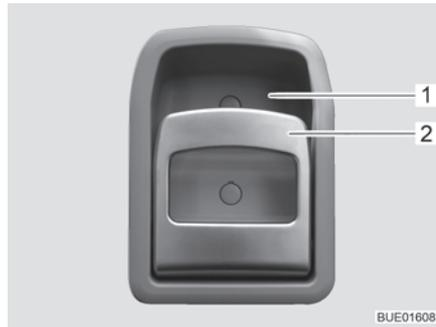

Fig. 63 Door lock of conversion door, inside
- Opening:** ■ Pull on the handle (Fig. 63,2). The door lock is unlatched or opened.
- Locking:** ■ Press the upper part of the handle (Fig. 63,2) in the direction of the recessed handle (Fig. 63,1). The door lock is locked.